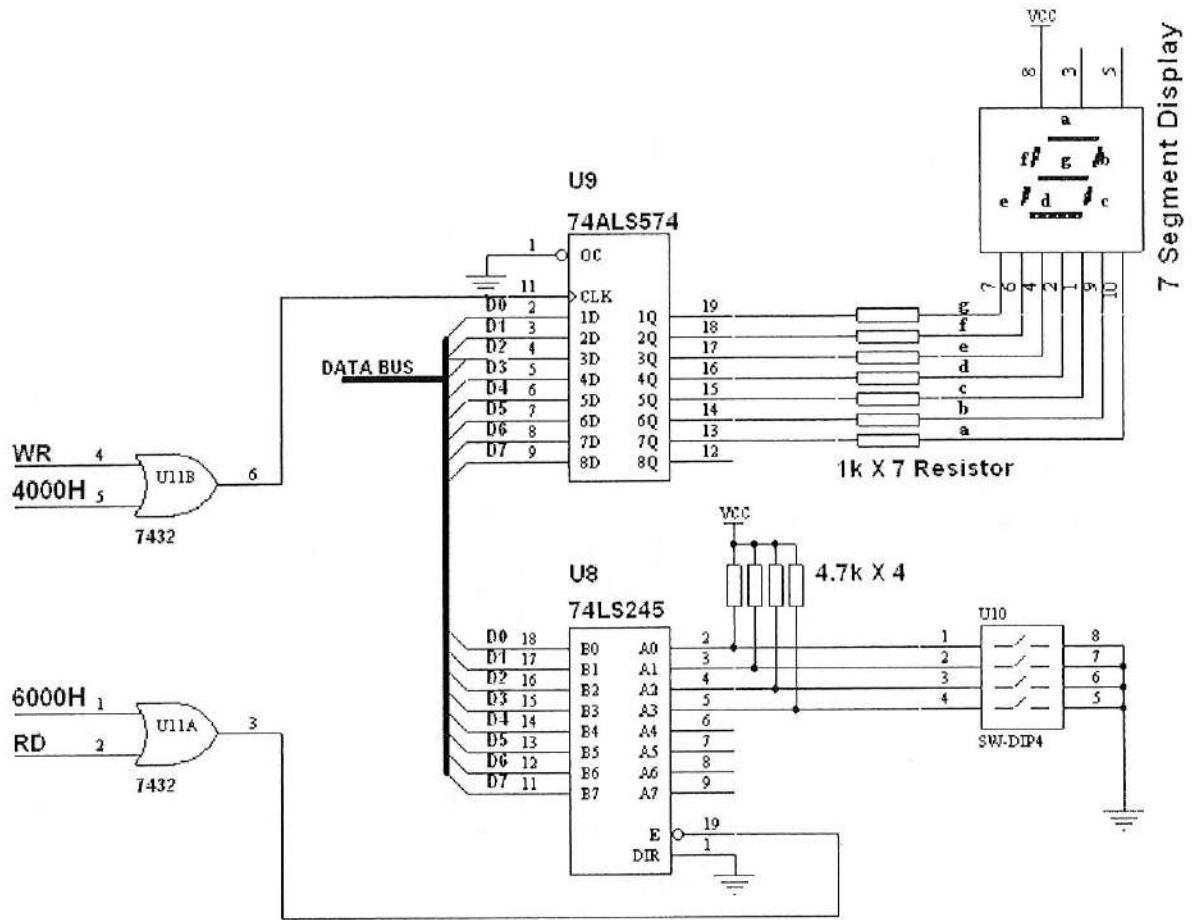

Figure 20/ Rajah 20
- S20. A 4-bit DIP switch and a common-anode 7-segment display are connected to 8051 as shown in **Figure 20**. Write a program that continually reads a 4-bit code from the DIP switch and updates the segments to display the appropriate hexadecimal character. For example, if the code 1010B is read, the hexadecimal character "A" should appear.